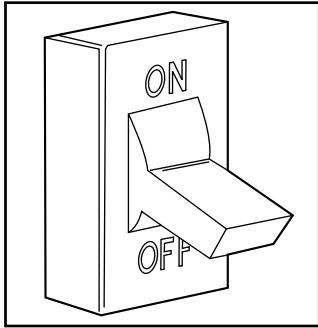

Fig. 19 – Turn Off Electrical Supply
1. Turn off electrical supply to the furnace. See Fig. 19.